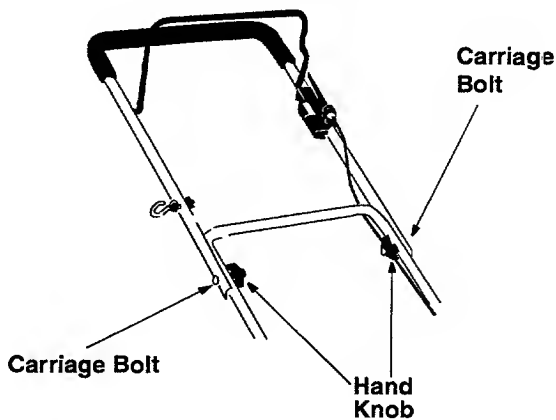

Figure 4
- Pull up and back on the upper handle to raise the handle into the operating position. Make certain the lower handle is seated securely into the handle mounting brackets. Tighten the hand knobs on each side of the handle (carriage bolts must be seated properly on the handle). See Figure 4.